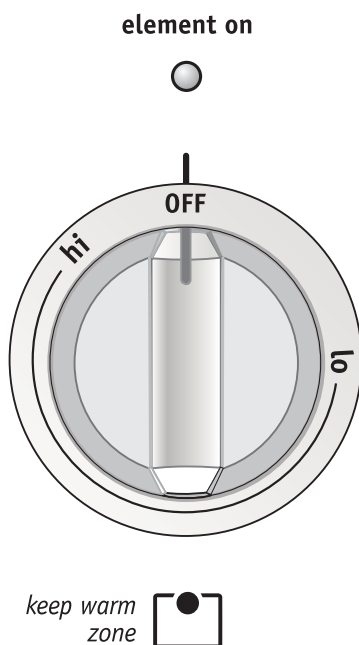

Figure 1
1. To set the control, push in and turn the knob (Figure 1). The temperatures are approximate, and are designated by HI, MED and LO. However, the control can be set at any position between HI and LO for different levels of heating.